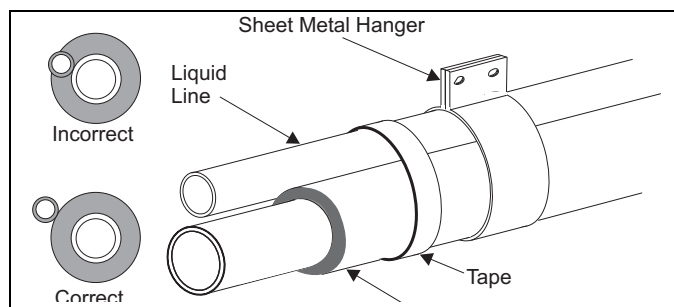

FIGURE 2: Installation of Vapor Line
5. Tape and suspend the refrigerant lines as shown. DO NOT allow tube metal-to-metal contact. See Figure 2.